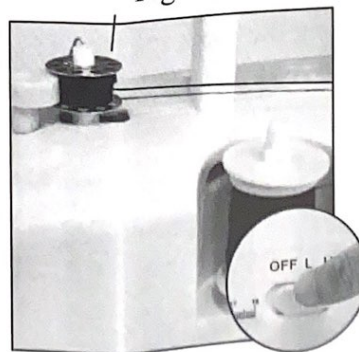

Fig.15
5. Switch on the machine to start winding. (Fig. 15)